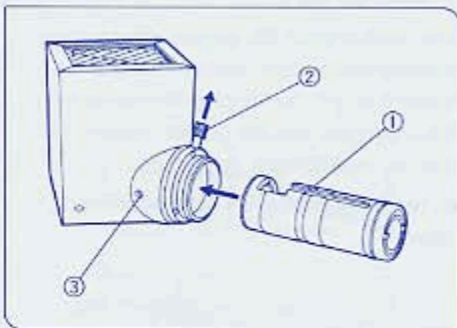

Fig. 13
1. Aligning the collector lens positioning groove ① with the pin inside the lamp housing, pull up the collector lens focusing knob ②, and slide the collector lens into the lamp housing as far as it will go. Then release and return the collector lens focusing knob ② to its original position. At this point, confirm that the collector lens can be moved back and forth by turning the focusing knob ②. If not, adjust the position of the collector lens by hand so that it will click into its proper position.
2. Firmly tighten the collector lens clamping screw ③. (Fig. 13)